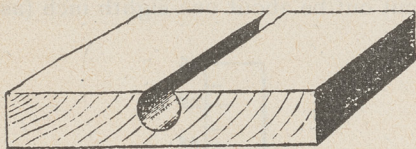
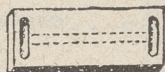
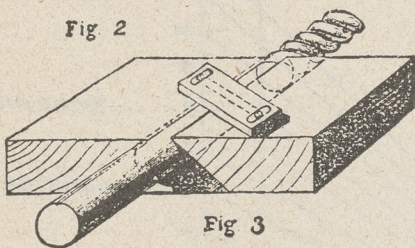

Fig. 1
Fig. 2
Fig. 3
1). Fasten this block on the table over the knives, so that a rod in the block will lie at an angle of about 45 to the cutter-head. Then run bed of machine up until knife will cut a full bead or beads. The best to experiment on will be the three-strand when cut with a common stocker knife, with three beads one-half inch or thereabout, with the centre head dropped back a little. The next thing to be considered is the arrangement for twisting the stock through the block. Take a block of hard wood 4 inches wide, seven-eighth inch thick, and 8 inches long; slot each end about 2 inches. Take two thin pieces of steel (old band saw blades will do), make them sharp on the back, and drive them into the block lengthwise in saw kerfs about one-fourth inch apart (see Fig. 2); the object of the slot is to make the beads intersect. Fig. 3 shows the twister in position. The stock is twisted through by hand. In case the knives do not cut out the feed marks, move the twister until they do. The tighter you have the twister the more positive the feed.
adjusted if the idea is understood and a little patience exhibited until satisfactory results are obtained. A crank handle about 8 inches long, with a thumb-screw to tighten the crank on the stock, is shown in Fig. 3, and is a great help in twisting. There is nothing neater or prettier in appearance than a small rope moulding placed in the corners of panels and other ornamental cabinet work and the general run of joiner's work; and the cheap and simple manner in which these mouldings can be made, after the plan here described, commends them for a great many purposes. Fig. 1.—Block bored out right size to receive stock. Fig. 2.—Piece of wood showing slotted ends for adjusting screws: Dotted lines are saw kerfs to receive pieces of steel for feeding stock. Fig. 3.—Fixture complete, with work in place. Figs. 4 and 5.—A table of machine; B, base piece, three eighth inch thick; C, the holding down piece, in which are inserted the two